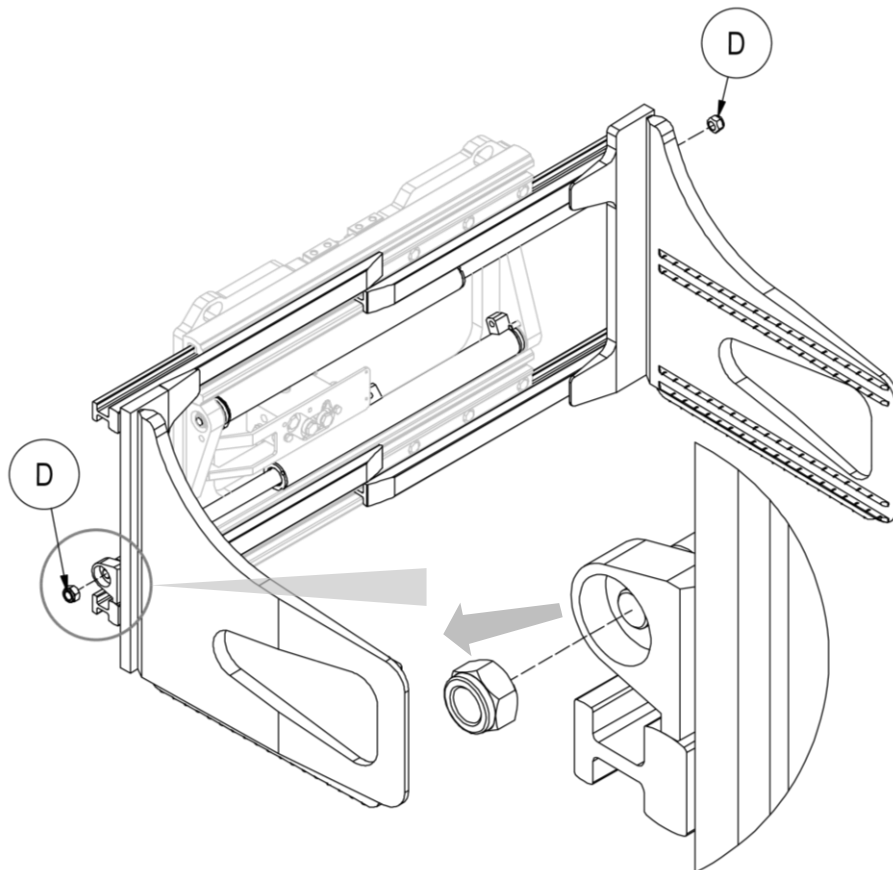

Figure 26
3. Remove the nuts D that secure the cylinders to the forks (see *Figure 26*).